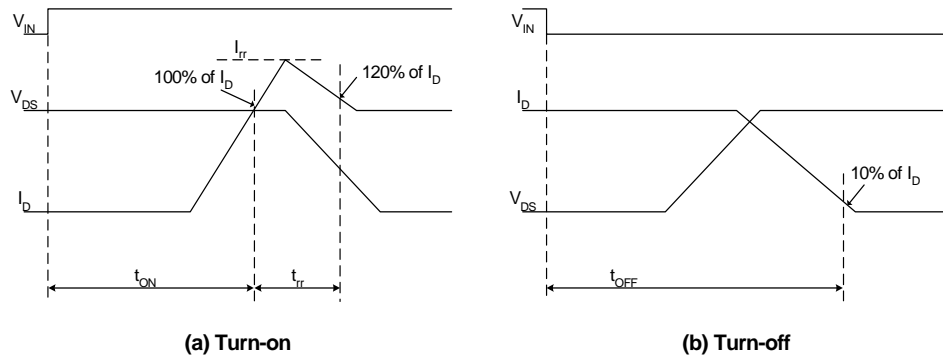
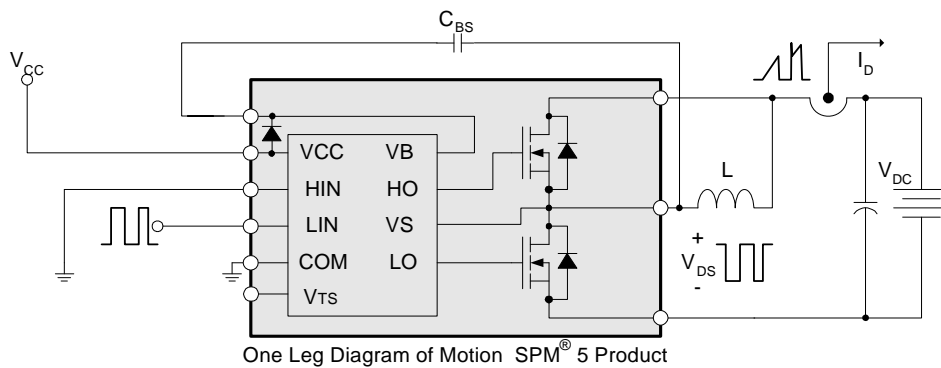

Figure 6. Switching Time Definitions
Figure 7. Switching and RBSOA (Single-pulse) Test Circuit (Low-side)
- t_{ON} and t_{OFF} include the propagation delay of the internal drive IC. Listed values are measured at the laboratory test condition, and they can be different according to the field applications due to the effect of different printed circuit boards and wirings. Please see Figure 6 for the switching time definition with the switching test circuit of Figure 7.
- The peak current and voltage of each MOSFET during the switching operation should be included in the Safe Operating Area (SOA). Please see Figure 7 for the RBSOA test circuit that is same as the switching test circuit.